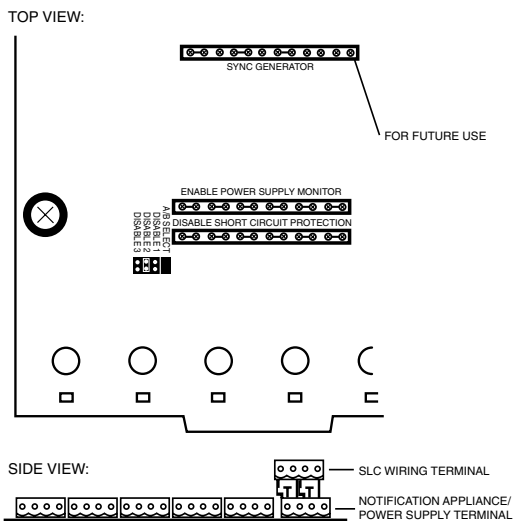

Figure 1
4. A shunt is provided to disable a maximum of three unused modules (see Figure 1). Modules are disabled from the highest address and work downward. If two modules are disabled, the lowest four addresses will be functional, while the highest two will be disabled. For example, if the shunt for Address Disable is placed on “two” and the base address switch is set to 28, the modules will be assigned to 28, 29, 30 and 31, disabling the higher two positions.
6. There is a power supply monitor that must be enabled to facilitate short circuit protection (see Figure 1). The module is shipped with power supply monitoring enabled represented by six large shunts on the pins of the “Enable Power Supply Monitor” area.